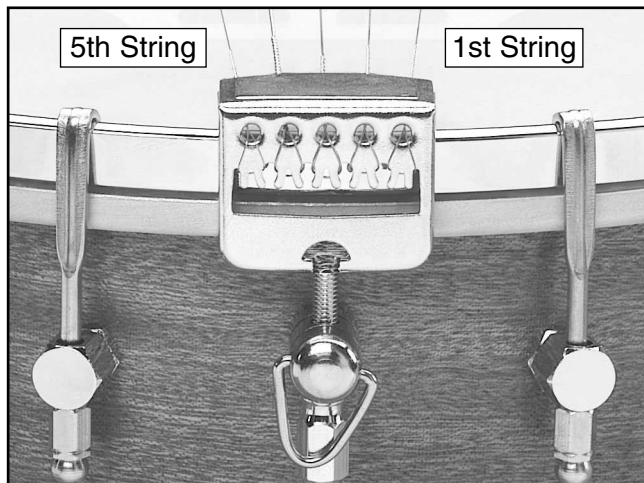

Figure 15. String placement.
1. Place the end of the string with the loop over the hooks on the tailpiece. The 1st string is farthest to the right, then 2nd, 3rd, 4th, and 5th farthest to the left as shown in **Figure 15**.